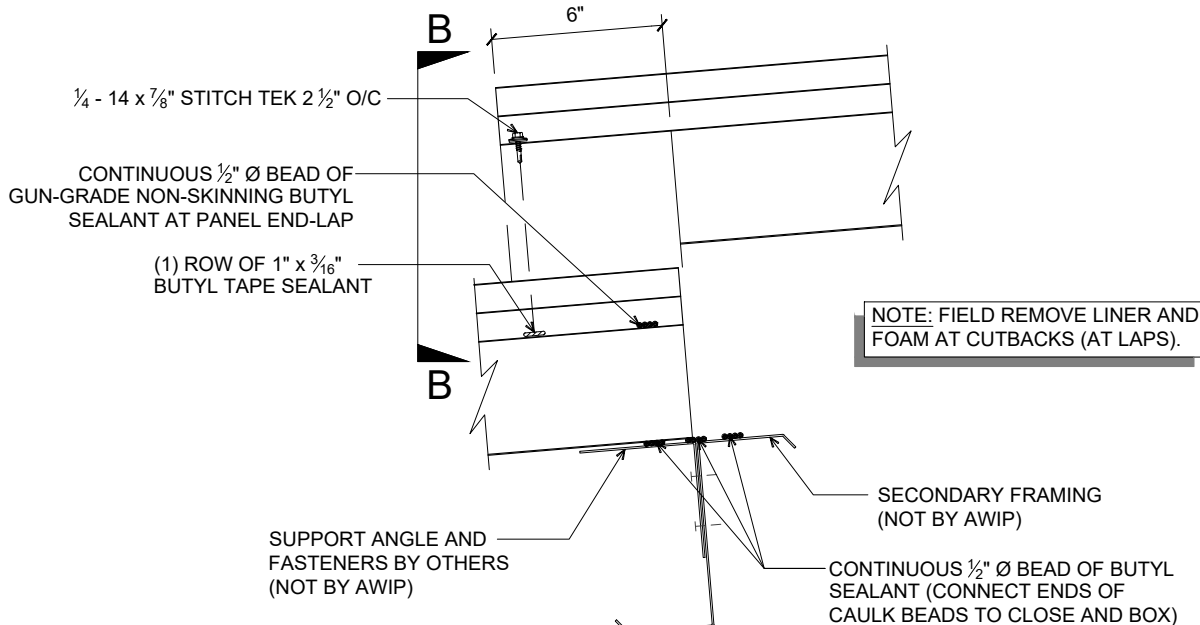

FIGURE 7
- 13.2 PRIOR TO PLACING THE LOWER COURSE / ROW OF PANELS, APPLY CONTINUOUS BEADS OF BUTYL SEALANT PER FIGURE 7 (BELOW) OR AS SHOWN ON YOUR PROJECT SHOP DRAWINGS.